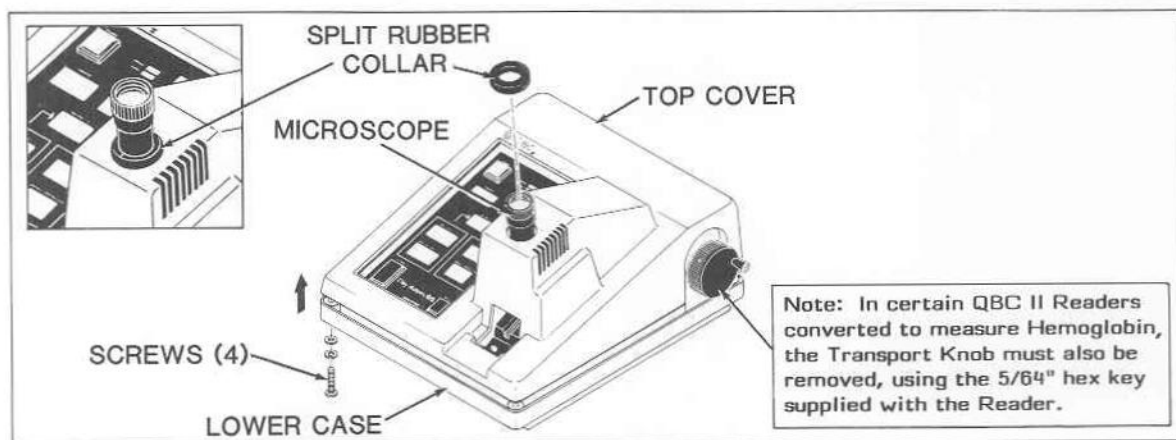

Figure 5.1. Top Cover Removal Details.
- Referring to Figure 5.1, remove the rubber grommet from the Microscope.
Referring to Figure 5.1, re-install the top cover and rubber microscope grommet.